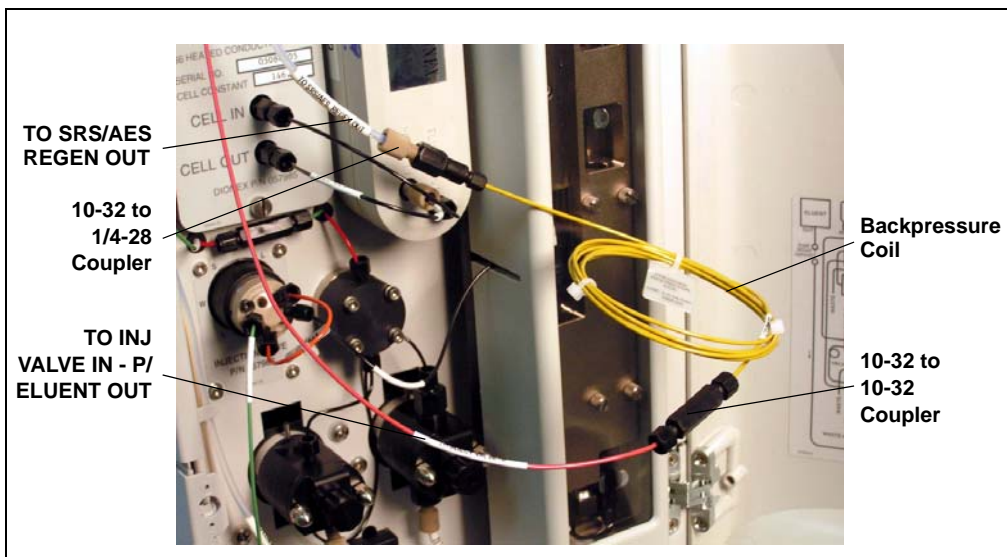

Figure 66. Backpressure Coil Connections for Conditioning the EluGen Cartridge and EPM with Carbonate/Bicarbonate Eluent
1. Disconnect the **TO INJ VALVE IN - P/ELUENT OUT** line from port **P (2)** on the injection valve.
5. Connect the **TO SRS/AES REGEN OUT** line to the 10-32 to 1/4-28 coupler (see Figure 66).
NOTE The backpressure coil connection in Figure 66 is temporary; it is required only during the EPM and EluGen cartridge conditioning procedure described in the next section.